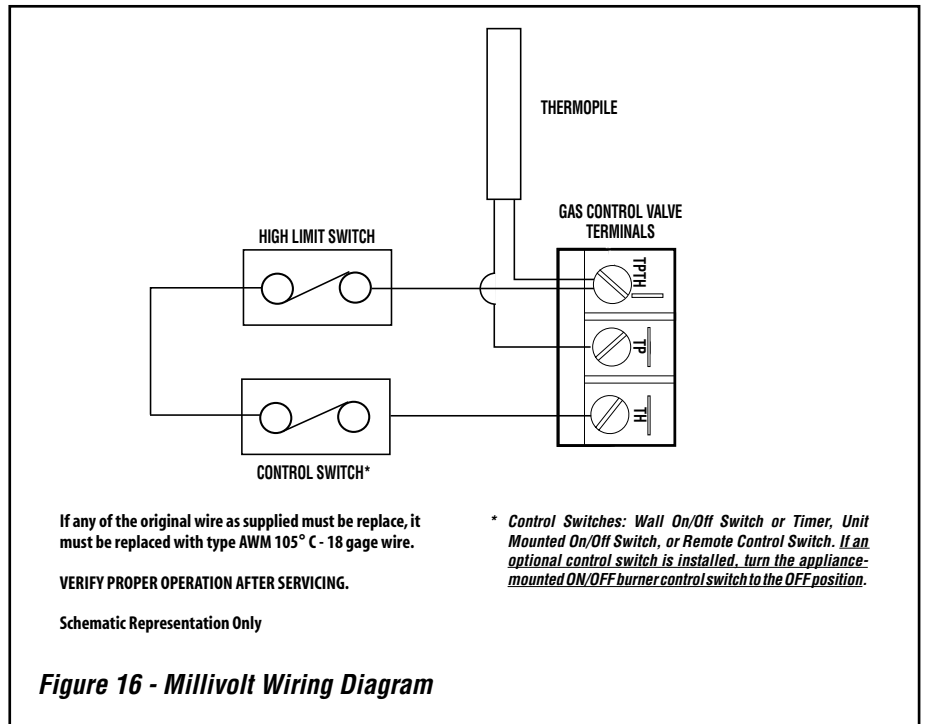

Figure 16 - Millivolt Wiring Diagram
A. Millivolt Wiring (See Figure 16)
Install Optional Control Switch (OFF/ON wall switch or remote control receiver). Install snap bushing (provided in Electrical Outlet Kit) into control switch knock-out in side panel (see Figures 11, 12 and 18). Wire the optional control switch within the millivolt control circuit (as shown in Figure 16) using the 15 feet of 2 conductor wire supplied (route wires through the snap bushing to the optional control switch). Mount the optional control switch in a convenient location on a wall near the fireplace.